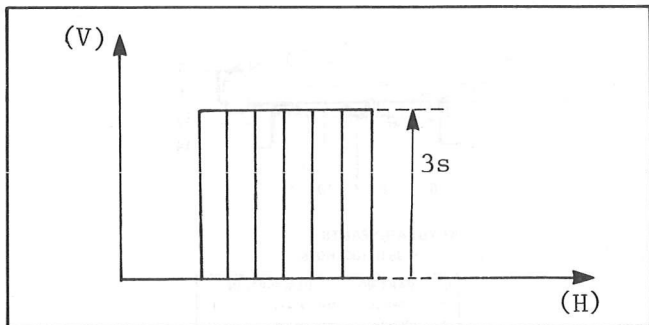

Fig. 39
- Holding down any key will display six growing waves on oscilloscope; CH1 being at leftmost position. Align rise time of remaining waves to CH1 rise time (coincidental max. to 0 transitions is desired.) (Fig. 39)